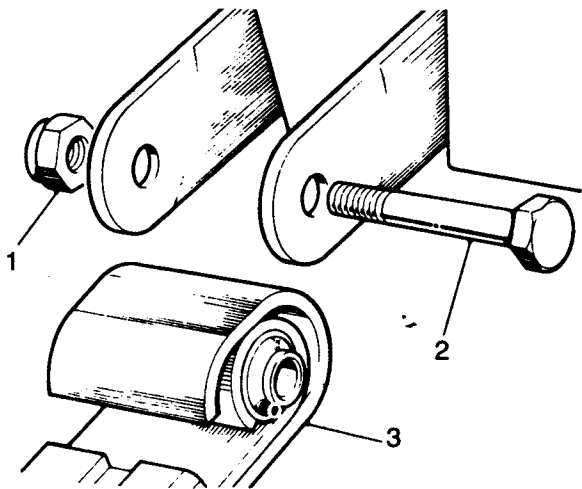

Fig 14.4
- (2) Refer to Fig 14.4. Fit the road spring (3) into the shackles.
- (3) Replace the shackle pin in the front end of the spring but do not tighten at this stage.
- (4) Replace the shackle pin (2) into the rear end of the spring but again do not tighten.
- (5) Screw on the self-locking nut (1) finger tight.